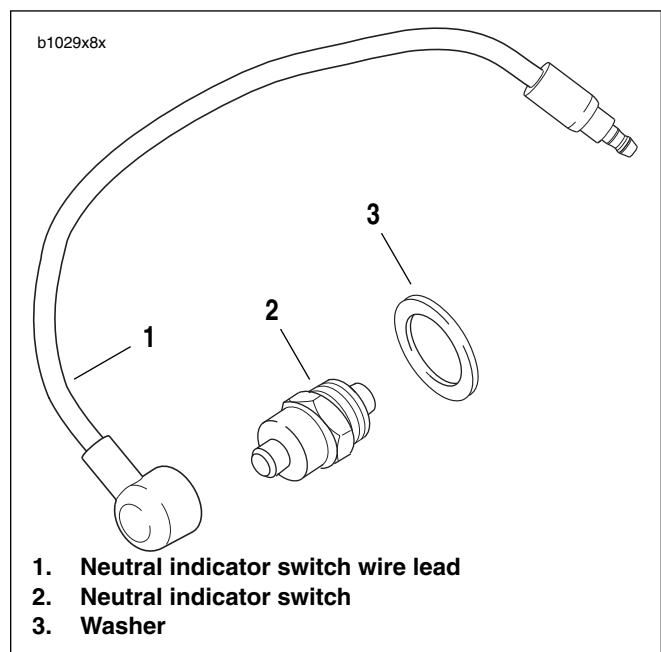

Figure 7-72. Neutral Indicator Switch
3. See Figure 7-72. Remove wire lead (1) from neutral indicator switch (2).
4. Remove neutral indicator switch and washer (3).
- a. Apply a light coating of LOCTITE THREADLOCKER 243 (blue) to **new** neutral indicator switch (1) threads.
- b. Install washer (3) over neutral indicator switch (2) threads.
- d. Connect wire lead (1) to switch.